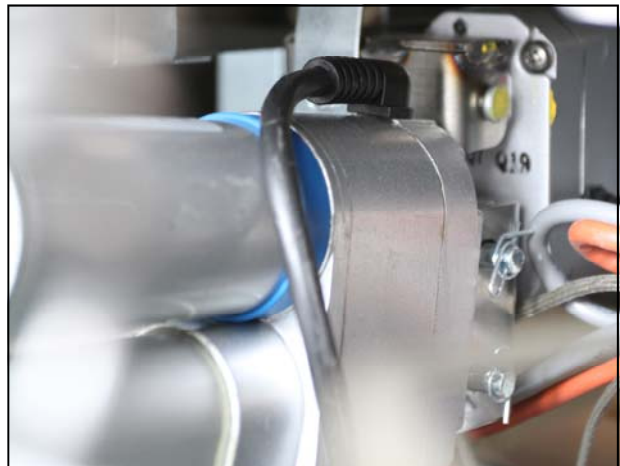

Figure 8: Attach the new actuator to the bracket, securing it with a pin and Clevis clip.
9. Position the new actuator, securing it with a provided pin and Clevis clip in the lower hole in the bracket. **See Figure 8.**